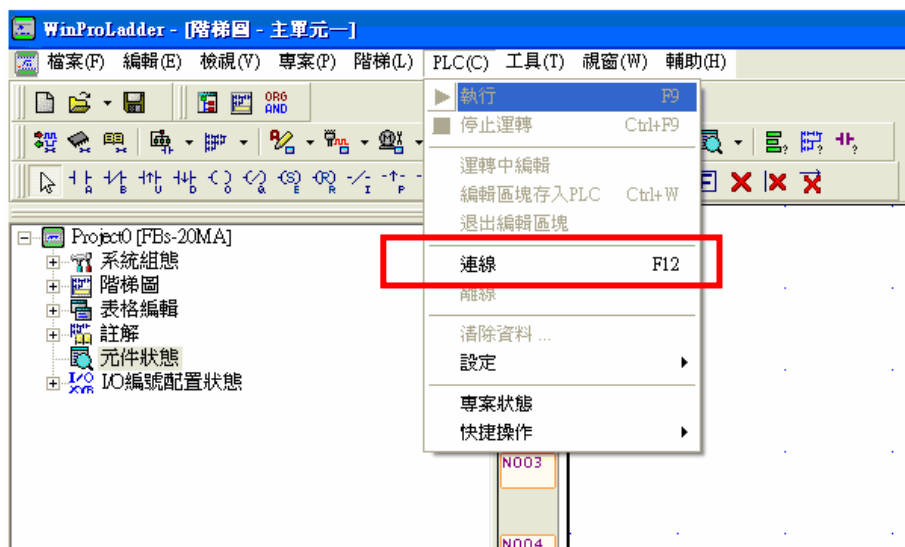

Figure 2-1-39: Set device office number
- FATEK PLC must use the PLC edit software to start RUN so that HMI can normally write in PLC. Click the “Connect” in the PLC menu to conduct this action as shown in figure 2-1-39.